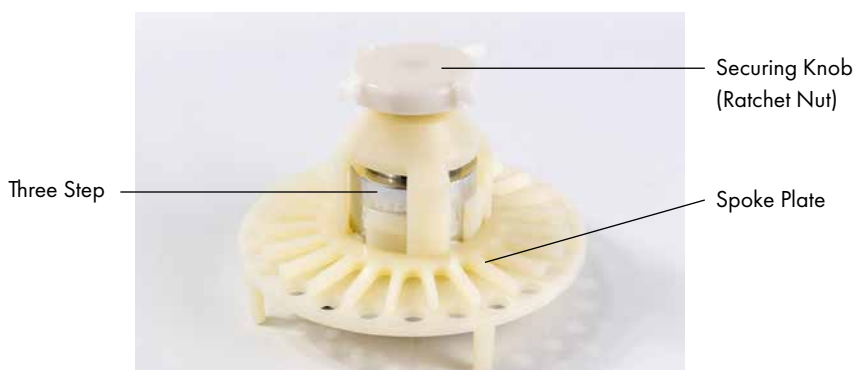

Fig. 3
1. Loosen the Securing Knob (Ratchet Nut) by rotating counter-clockwise until it comes out (Ref. Fig. 3).